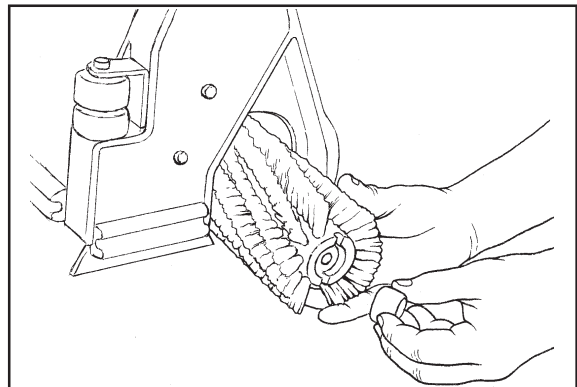

Figure 24
6. Remove brush spacer and brush by sliding off of brush shaft (See Figure 24).